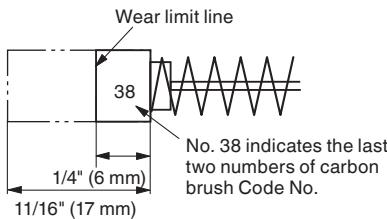
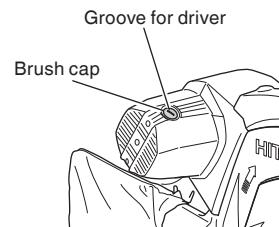

Fig. 51
Fig. 52
2. Inspecting the carbon brushes (Fig. 51 and Fig. 52)
Therefore, inspect the carbon brushes periodically and replace them when they have become worn to the wear limit line as shown in Fig. 51.
The carbon brushes can easily be removed after removal of the brush caps (see Fig. 52) with a slotted (minus) screwdriver.
NOTE: When replacing the carbon brushes, use only Hitachi carbon brushes having "38" in the last two digit of its Code No. (see Fig. 51). If you use other carbon brushes, the electric brake will not operate.